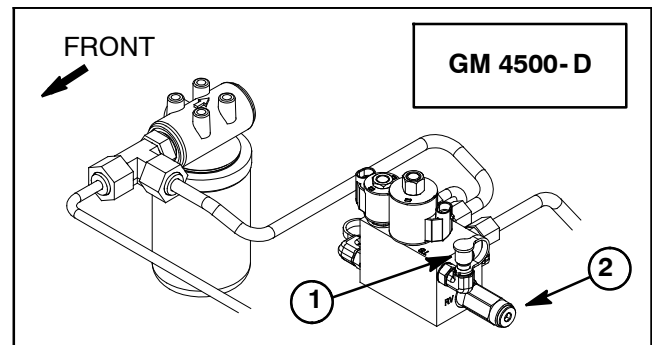

Figure 54
1. Make sure hydraulic oil is at normal operating temperature by operating the machine for approximately ten (10) minutes. Make sure the hydraulic reservoir is full.
3. Raise and support seat to gain access to lift control manifold (Fig. 54 or 55). Connect a 5000 PSI (350 bar) pressure gauge with hydraulic hose attached to lift manifold test port G1. Route gauge hose to allow hood to be safely lowered.